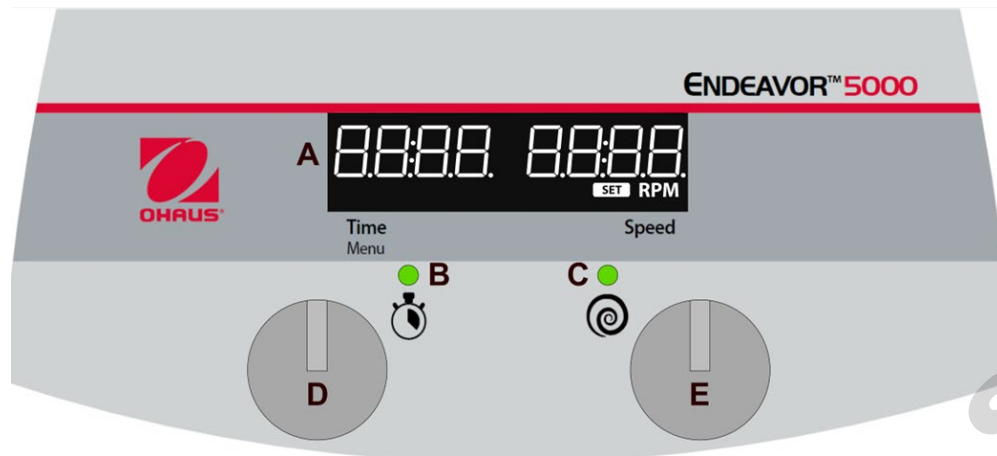

Figure 1: Endeavor 5000 Digital Control Panel
2. When the timer is set to any time between 00:01 and 99:59, the timer will count downwards from the set time once the shaking function is turned on and the **Timer Status indicator Light (B)** will be illuminated.
- c. Once the timer reaches 00:00 in the countdown mode shaking functions will shut off, the unit will beep 1 time and “End” will appear on the display (A, Figure 1).
1. Rotate the Time Adjustment Knob (D, Figure 1).
- c. Quick press the **Time Adjustment Knob (D)** to select the minutes value
- e. Rotate the **Time Adjustment Knob (D)** to adjust the hours value
- f. Quick press the **Time Adjustment Knob (D)** to confirm hours value and the timer setting
1. Rotate the **Speed Adjustment Knob (E, Figure 1)** to the desired setting
1. Press and hold the **Speed Adjustment Knob (E)** until the unit beeps and the **Run Status Indicator (C, Figure 1)** illuminates.
- While in Idle Mode, press and hold the **Time Adjustment Knob (D)** until "MENU" is displayed
- Quick press either the **Time Adjustment Knob (D)** or **Speed Adjustment Knob (E)**.
- To select a recall run condition, press and hold the **Speed Adjustment Knob (E)** until the unit beeps and the **Run Status Indicator (C)**, Figure 1) illuminates.